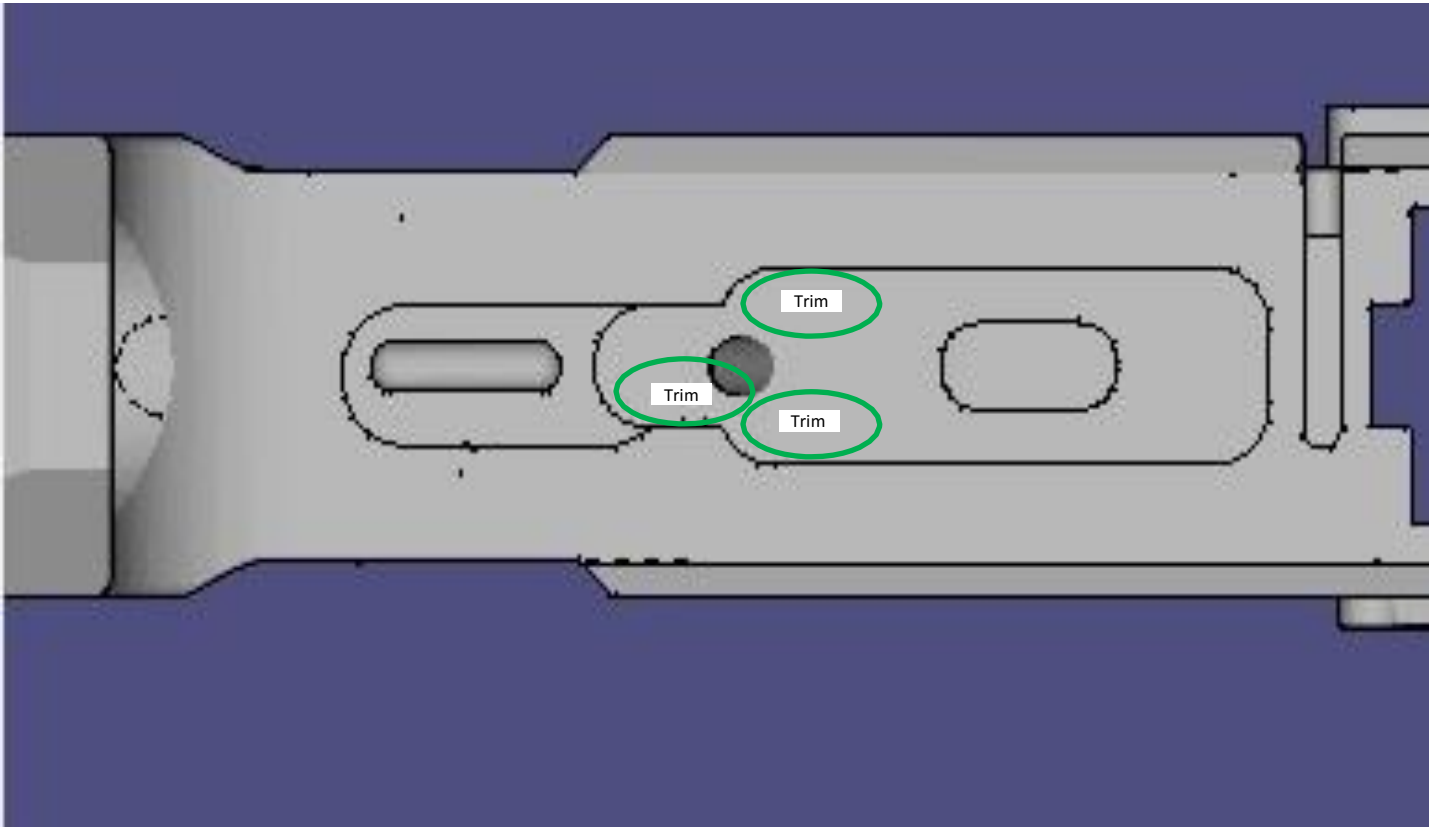

Figure 4
15. Final step is to start the trigger fitting: In **Figure 4**, there are 3 general areas that you'll focus on (besides the trigger hole itself). The trigger should just drop straight down in there cleanly, but it's never happened to me without some additional fine tuning. **Using the dremel bit on the slowest setting**, I carefully and slowly trim surfaces to make sure the trigger operates smoothly. The rear section on the left side of the Figure 5 is where you need to be careful not to penetrate too far on the wall because the safety selector switch **detent and spring** are very close to this area, and the Milspec leaves very little room for error.